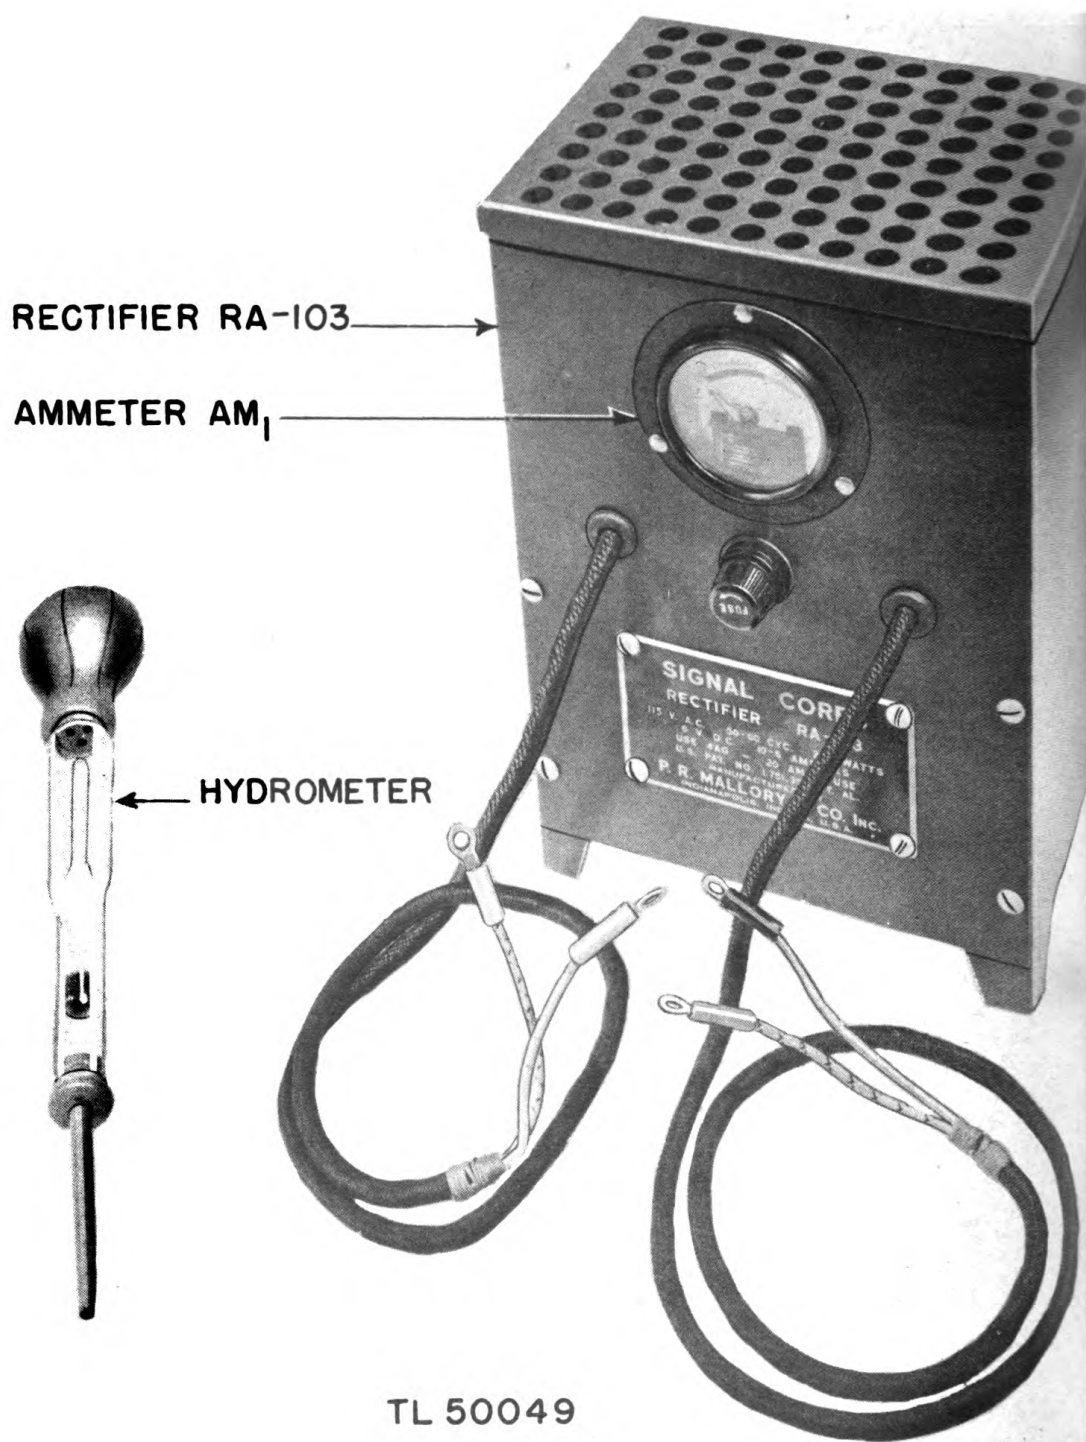

Figure 6. Rectifier RA-103
9. RECTIFIER RA-103, BATTERY CHARGER (See figure 6).
12. HYDROMETER (See figure 6).